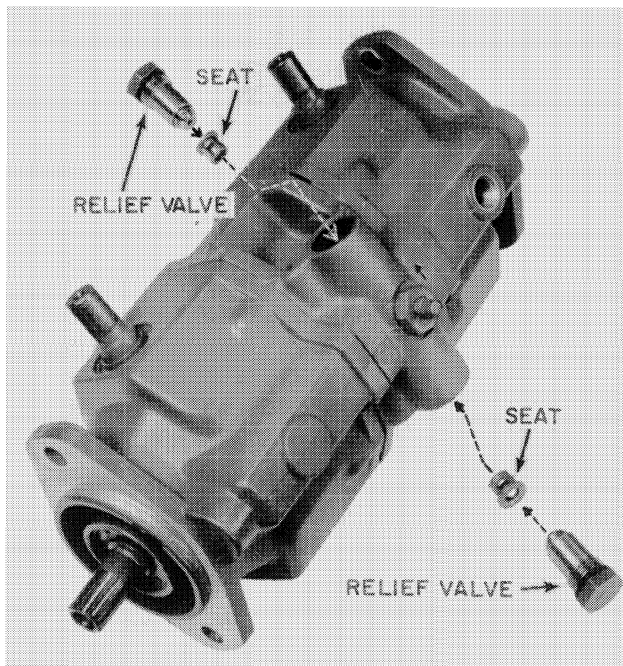

FIGURE 19
- C. **ATTENTION:** Cessna transmission relief valves are sold and must only be serviced as a matched set of valve and seat. If a valve is removed, the seat must be removed and kept with the valve. When installing a new relief valve, install the new seat with it. See Figure 19.